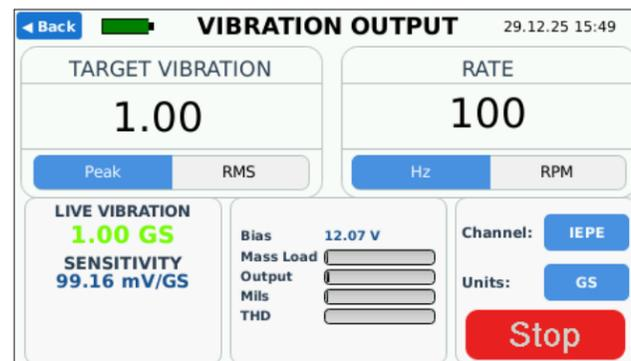

Figure 12
5. Select the **Start** button to begin the test (Figure 12).